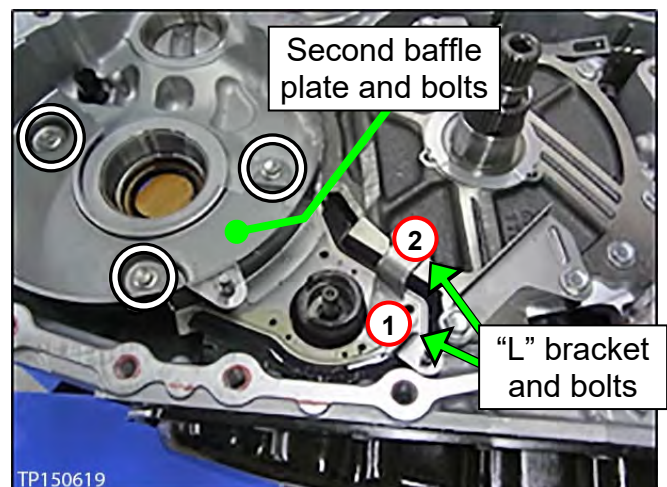

Figure 73
9. Install finger tight the second baffle plate and "L" bracket with related bolts (see Figure 73).